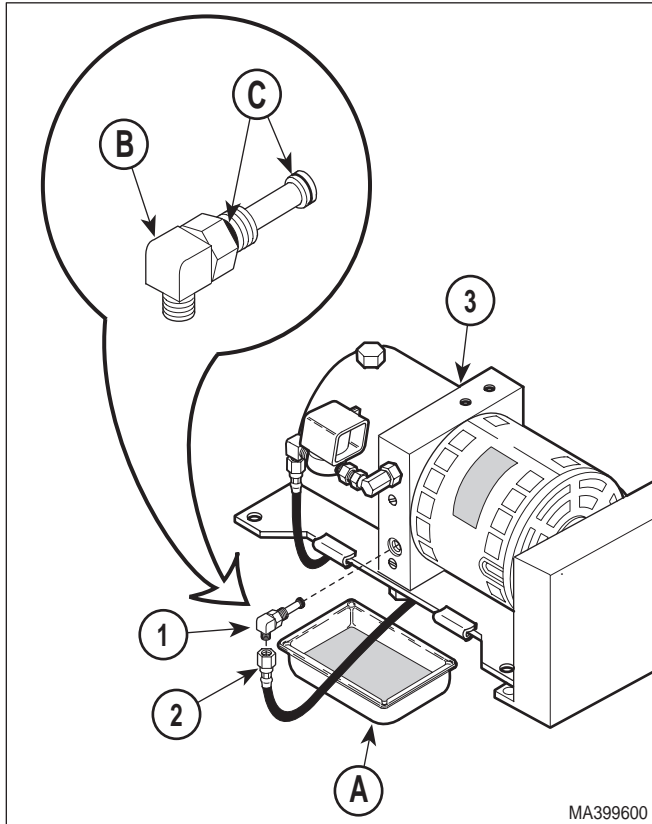

Figure 4-3. Up Functions Shuttle Valve Removal / Installation
- (3) Place drain pan (A) under up functions shuttle valve (1, Figure 4-3).
- (4) Disconnect hose assembly (2) from elbow (B) of up functions shuttle valve (1).
- (5) Remove up functions shuttle valve (1) from motor pump (3).